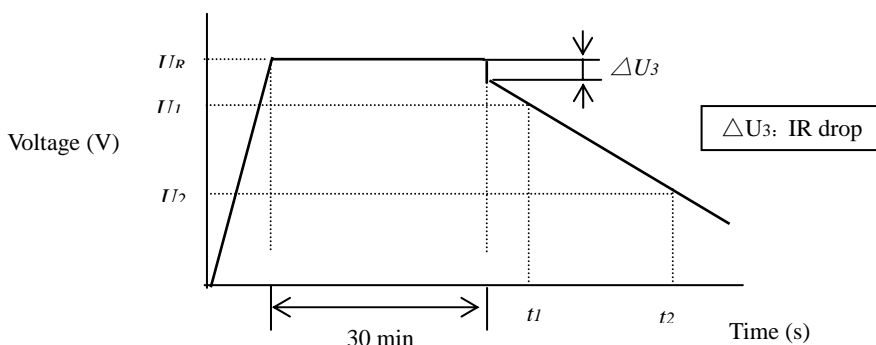

Figure 2: Voltage Characteristics between Capacitor Terminals 图 2: 电容器端电压特征
- 5) Measure the time t_1 and t_2 when the voltage between capacitor terminals at the time of discharge reduces from U_1 to U_2 as shown in Figure 2, and calculate the capacitance value by the following formula:
如图 2 所示, 记录放电时电压在 U_1, U_2 的时刻, t_1, t_2 的值, 并用以下公式计算容量。